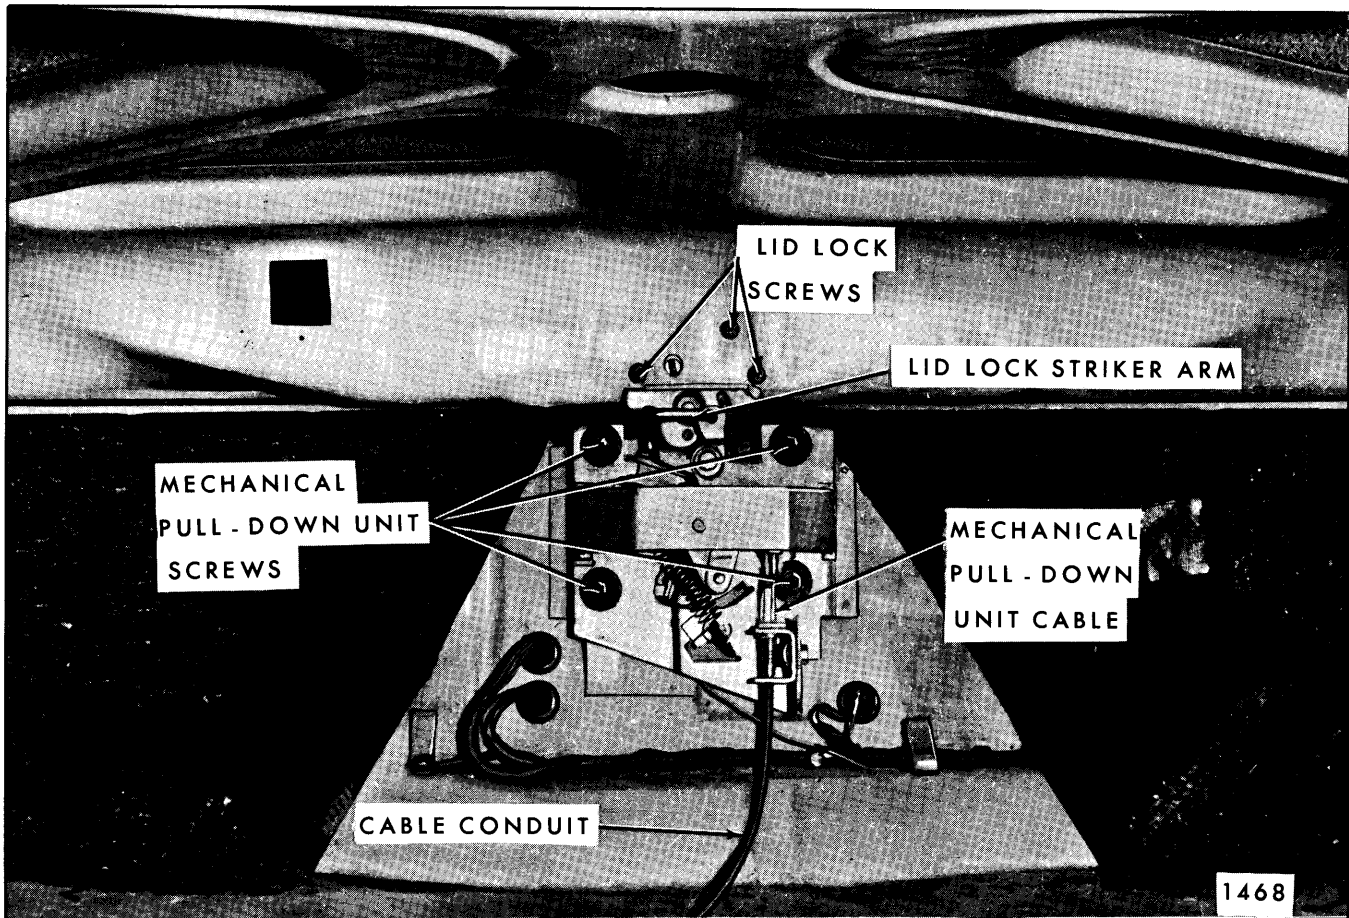

Fig. 8-17—Rear Compartment Mechanical Pull-Down Unit - Cadillac Styles with Option
3. Scribe (mark) position of pull-down unit on rear end panel and supports to facilitate reinstalling unit in same position. Remove pull-down unit attaching bolts and remove unit from body (Fig. 8-17).